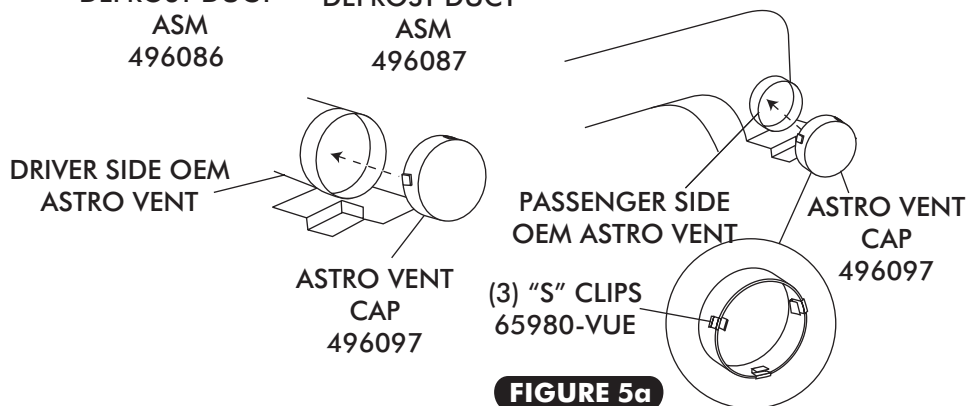

FIGURE 5a
- INSTALL ASTRO VENT CAP WITH "S" CLIPS AS SHOWN IN FIGURE 5a, BELOW.